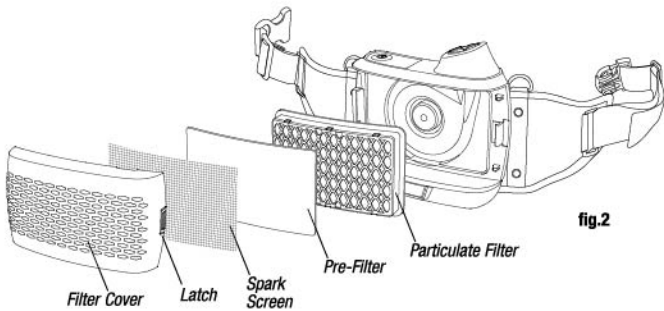

fig.2
- Please install the particle filter according to fig.2.